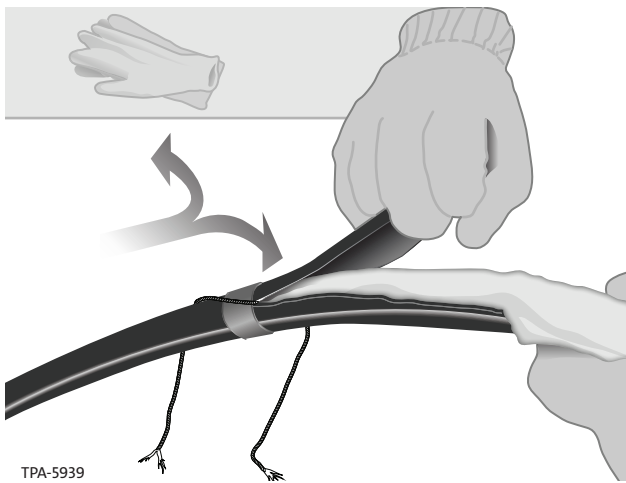

Figure 17
Step 7: Pull the outer jacket open to the tape mark (Figure 17). Ring cut as before about half-way through the GRP rods and PE jacket. Bend the jacket back.